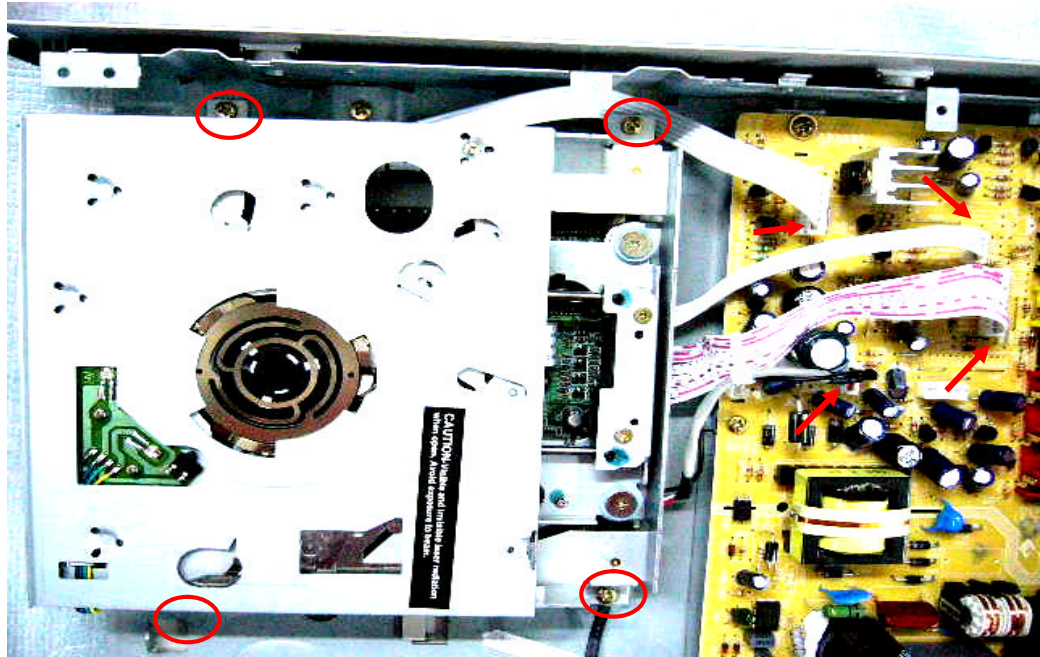

Figure 6
Step6: Remove 4 screws that added ellipses at both sides of the Loader and disconnect 4 wire connections as the arrowhead aim. (Figure 6)